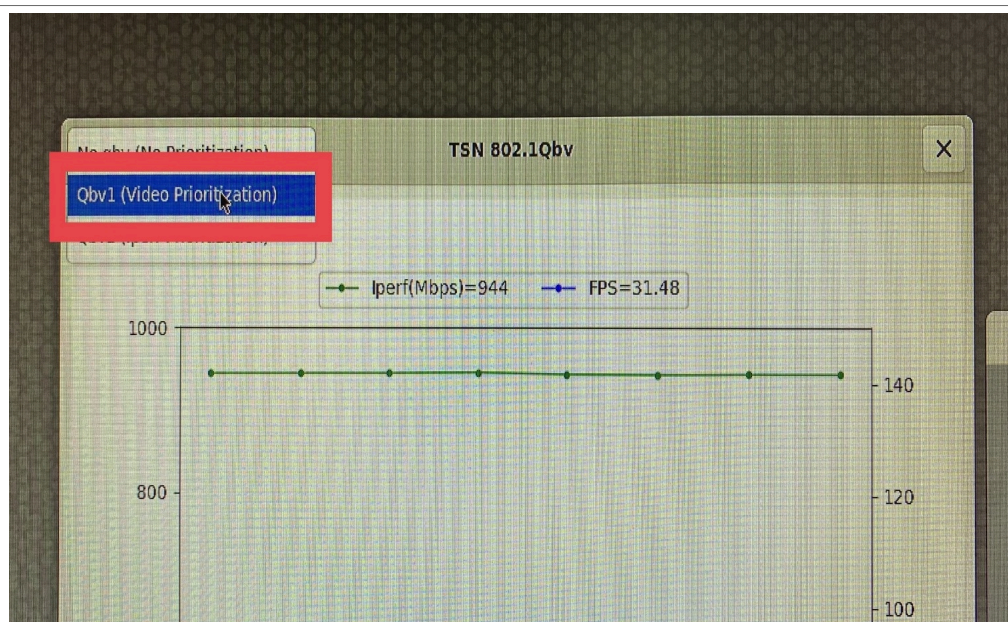
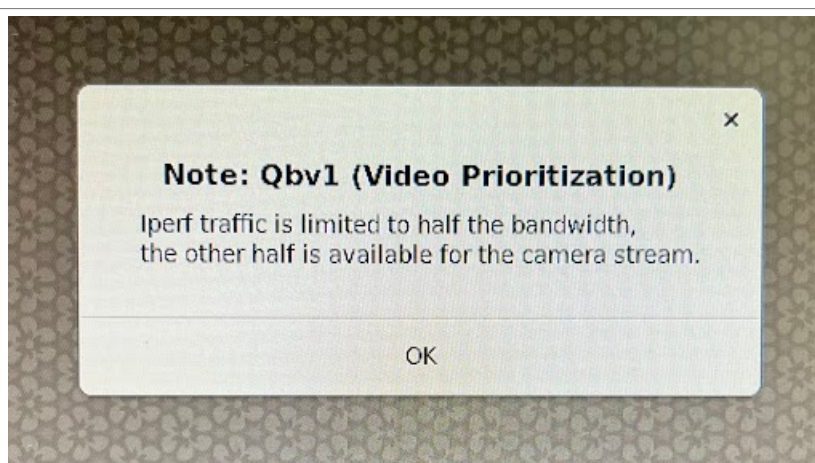

Figure 44. Qbv1 (Video Prioritization) configuration button
Figure 45. About Qbv1 (Video Prioritization) pop-up window
- After clicking the **Qbv1 (Video Prioritization)** button, as shown in Figure 44, the pop-up window shown in Figure 45 appears.